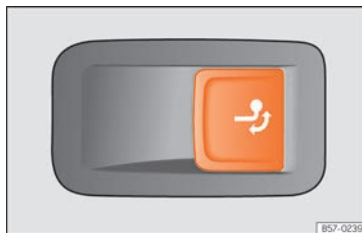

Fig. 179 Right side of the luggage compartment: button to unlock the tow hitch.
- Pull the >>> **Fig. 179** button briefly. The tow hook unlocks electrically and automatically turns outwards. The button's control lamp flashes.
- Pull the >>> **Fig. 179** button briefly. The tow hook unlocks electrically.
- Never press the button >>> Fig. 179 when there is a trailer hooked to the vehicle or when a carrier system or other accessories are mounted on the tow hook.